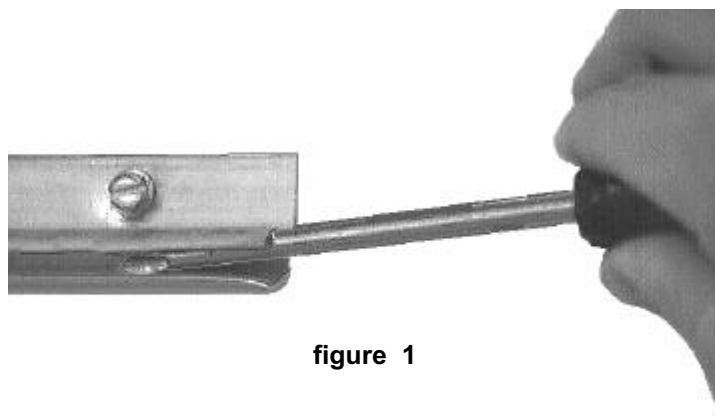

figure 1
**B.** Be sure the awning rail is straight. Use a screwdriver to spread open the awning rail on the side the awning will be installed into (**figure 1**). Use a file to smooth the edges of the opening to avoid damaging the fabric.